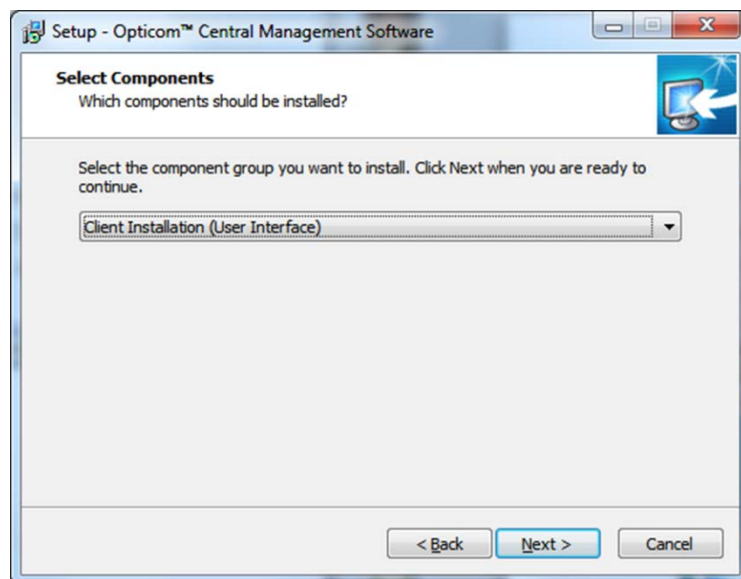

Figure 4-1
3. When prompted on the Select Components screen, choose "Client Installation." See figure 4-1.